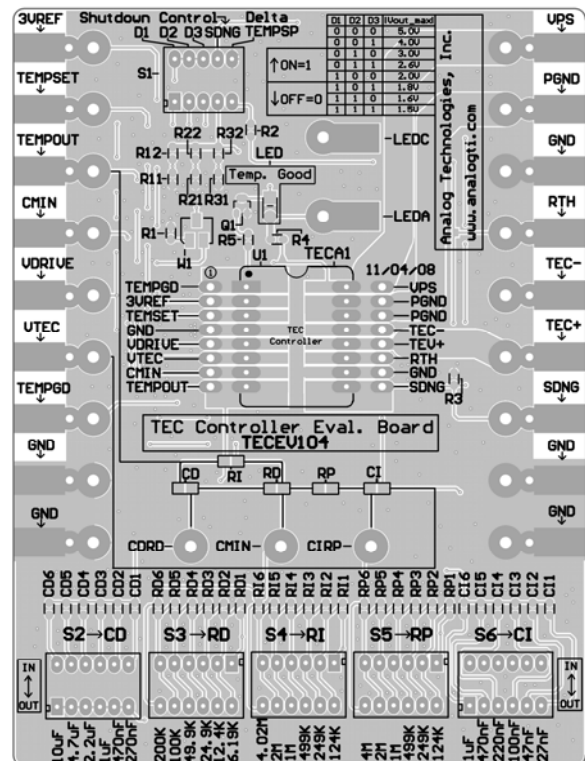
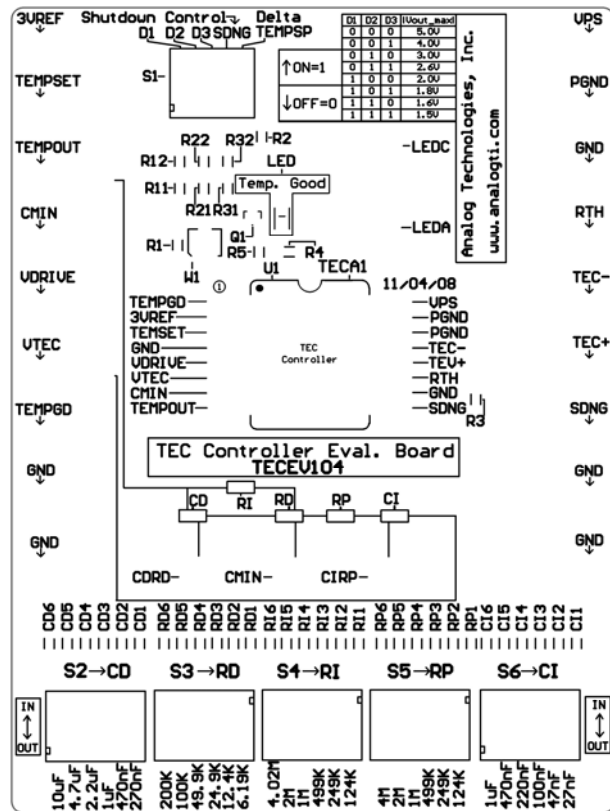

Figure 2. Top Silkscreen Layer with Other Top Layers
Figure 3. Top Silkscreen
The silkscreen layer of the evaluation board is shown in Figure 2 with other top layers, including top silkscreen, top copper, top solder mask, and multilayer (vias). Figure 3 only shows the image of top silkscreen layer. There is no component in the bottom side of the board, so that there is no bottom silkscreen layer image.
- 4. After tuning, the values of the capacitors for  $C_D$  and  $C_1$  can be read off the capacitor selection switches. The values of the resistors,  $R_I$ ,  $R_d$  and  $R_P$ , can be measured by an Ohm-meter by connecting to the resistor pins. As seen in the photo of Figure 3,  $R_I$  can be read off between TEMPOUT and CMIN test points;  $R_D$  can be read off between CMIN